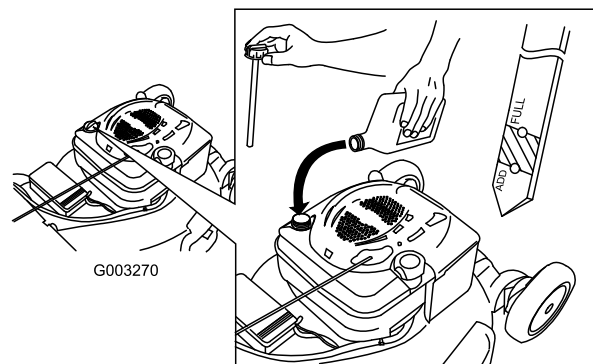

Figure 10
2. Remove the dipstick and check the oil level (Figure 10). If the oil level is below the Add mark on the dipstick, **slowly** pour oil into the oil fill tube to raise the oil level to the Full mark on the dipstick. **Do not overfill.** (Max. fill: 20 oz. (0.59 l), type: SAE 30 detergent oil with an API service classification of SF, SG, SH, SJ, SL, or higher.)
1. Remove the dipstick, wipe it clean, and fully install the dipstick (Figure 10).